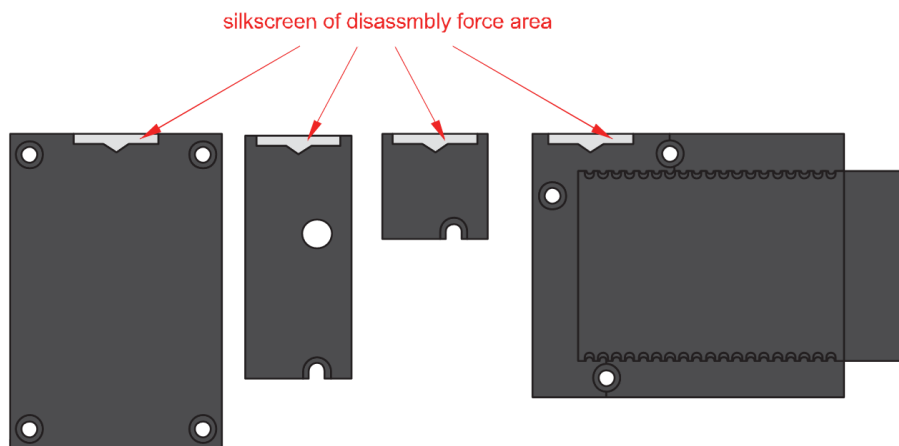
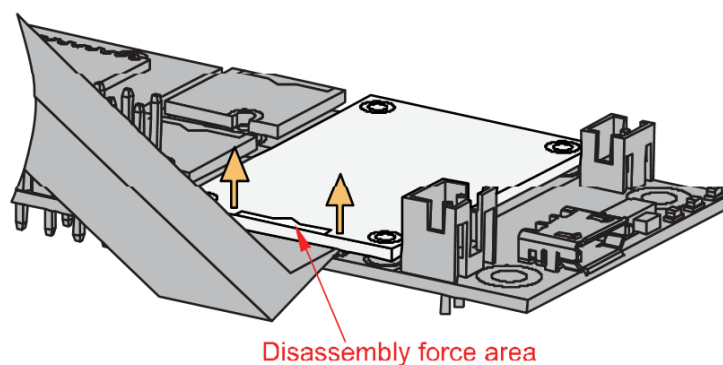

Figure 18: Detaching silkscreen on the WisBlock module
Figure 19: Applying even forces on the proper location of a WisBlock module to detach the module from the Base Board
2. Once the screws are removed, on the PCB of a WisBlock module, there is a silkscreen that shows the correct location where force can be applied. By applying even force under the marked area, the module can be detached from the Base Board. See **Figure 18** and **Figure 19**.